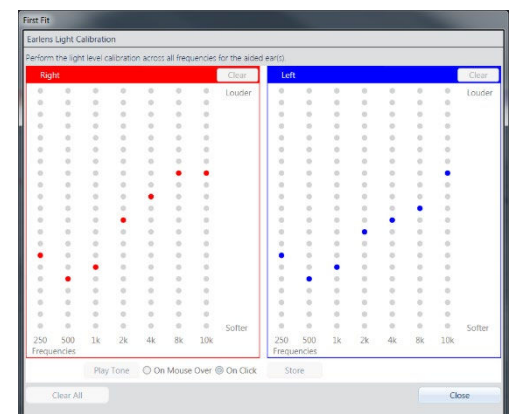

Figure 22: Light Calibration window
- b. A Light Calibration pop-up window will appear (Figure 22).